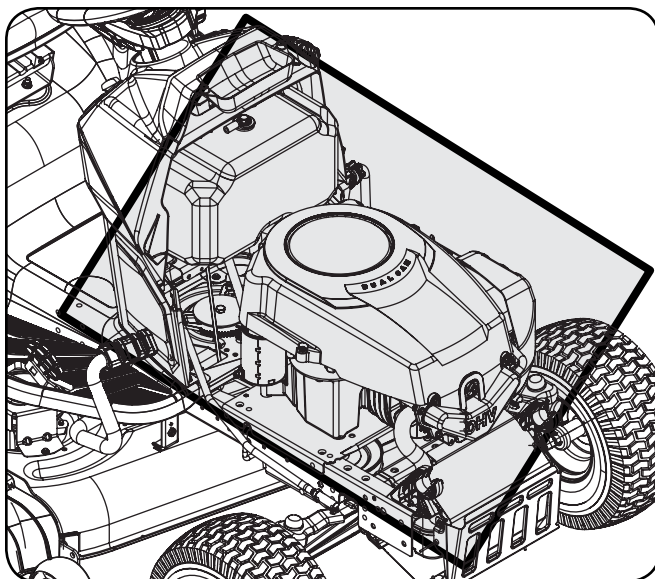

Figure 6-1
- Clean under the hood. Exhaust manifold, around fuses, all wiring and harnesses, muffler pipe, muffler shield, engine intake screens and cooling fins, etc. See Figure 6-1.